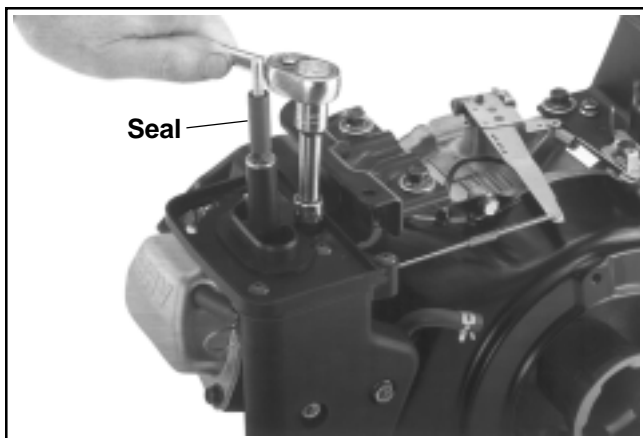

Figure 11-104. CS4, CS6. Installing Air Cleaner Base.
1. Install the air cleaner base gasket onto the mounting studs. Attach the breather hose onto the air cleaner base connection port. Then install the air cleaner base onto the studs. Connect the opposite end of the breather hose to the valve cover. Secure the base with the two hex. flange nuts on the mounting studs and the one or two hex. flange screw(s) into the support bracket(s), depending on the model involved. See Figures 11-104, 11-105, and 11-106. **On CS8.5 (spec. 95xxxx) only**, install or make sure the rubber seal for the air cleaner is clean, installed, and in good condition. See Figure 11-106.
2. Make sure the seal is on the air cleaner base stud. See Figures 11-104, 11-105, and 11-106. Install the filter element with precleaner and secure with the wing nut. **Do not** install the outer air cleaner cover and knob at this time.